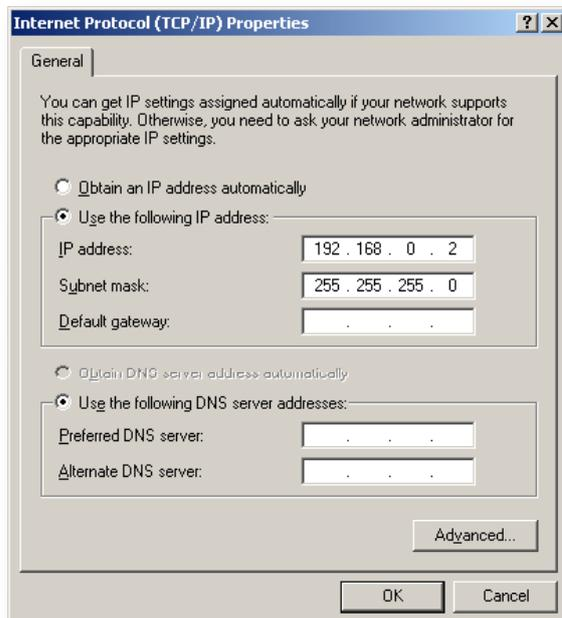

Fig. A-6 Configuring an IP address
4. Select the entry *Internet Protocol version 4* and click Properties. You now see the screen in Fig. A-6. As shown, select Use the following IP address and enter 192.168.0.2 as the IP address for your computer as specified. The specified subnet mask is filled in automatically.